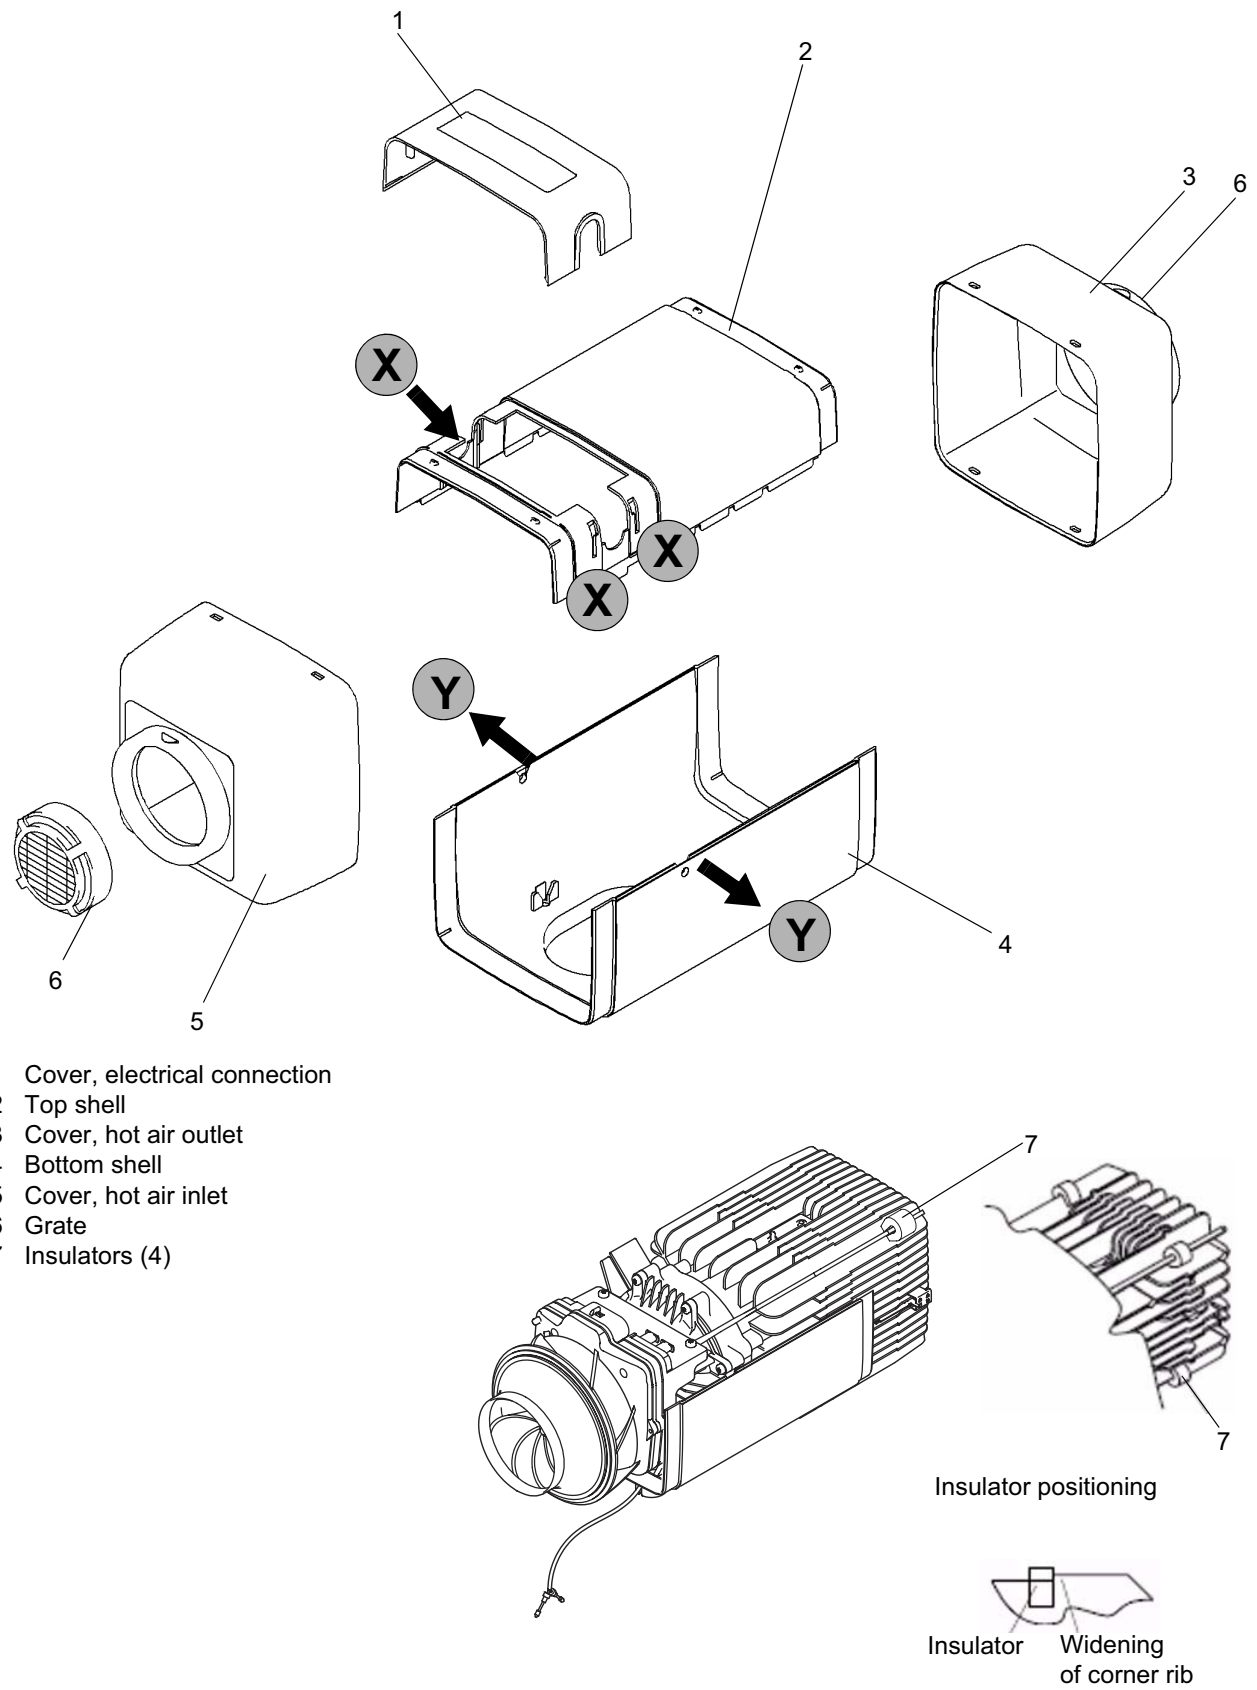

Fig. 901 Remove / fit the casing parts
The cover (1, Fig. 901) can be levered off using a blunt blade in the areas marked "X".
The grate (6, fig. 901) can be released from its mounting by twisting it and then pulled off forwards.
Both covers (3 and 5, fig. 901) can be released from their mountings and removed by pressing the four detents at the top and bottom using a suitable tool.
The top shell (2, fig. 901) can be raised after the covers for the hot air inlet and outlet have been removed.
The insulating mat (7, fig. 901) is only fixed on the heater by the casing parts.
- Position the insulating mat (7, fig. 901) so that half of the width of the mat is under the shells (4 and 2) or under the cover for the hot air outlet (3).
- When you fit the top shell (2) ensure that the insulating mat is secure.
1. Ensure that the insulating mat (7) is properly positioned on the heat exchanger.
2. Expand the bottom shell (4, Fig. 901) slightly at the side and fit it to the heater from underneath until the securing pins on the heater engage in the holes in the shell.
Place the top shell (2, fig. 901) on the heater and secure it in the grooves in the bottom shell.
Push on the covers (3 and 5, fig. 901) until the four securing holes engage properly in the detents on the bottom and top covers.
Fit the grates (6, fig. 901) on the covers for the hot air inlet and outlet and twist them to secure them.
Fit the cover (1, fig. 901) until it audibly engages in the top cover.